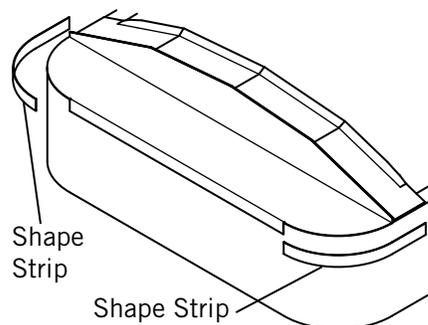

Figure 10-3
- 3) **Figure 10-3.** Attach with 3/8 x 1 Type F HWH Bolts through trough into top rail.
- 4) **Figure 10-3.** Shape the aluminum strip around the corner of the trailer, mark and cut to length for both sides.